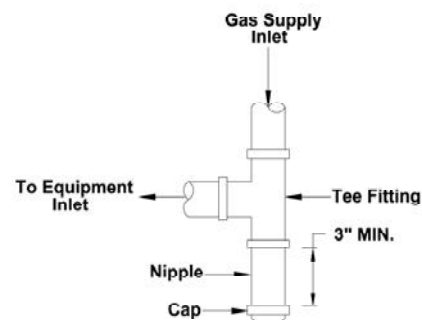

Figure 10: Typical Sediment Trap (required in all installations)
- 🔥 NFPA Code and Hearthstone require the use of a dedicated sediment trap just upstream of the unit. Damage to the valve or other components, due to the lack of a sediment trap (*figure 10*), are not covered by warranty.